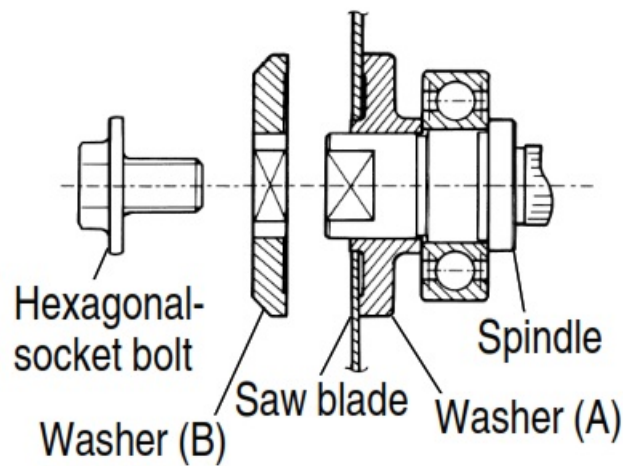

Fig. 14
- (1) Thoroughly remove any sawdust which has accumulated on the spindle, bolt, and washers.
- (2) As shown in Fig. 14, the side of Washer (A) with a projected center the same diameter as the inner diameter of the saw blade and the concave side of Washer (B) must be fitted to the saw blade sides. * Washer (A) is supplied for 2 types of saw blades with hole diameters of 16 mm and 30 mm. (When buying the Circular Saw, one type of washer (A) is supplied.) In case the hole diameter of your saw blade does not correspond to that of washer (A), please contact the shop where you purchased the Circular Saw.